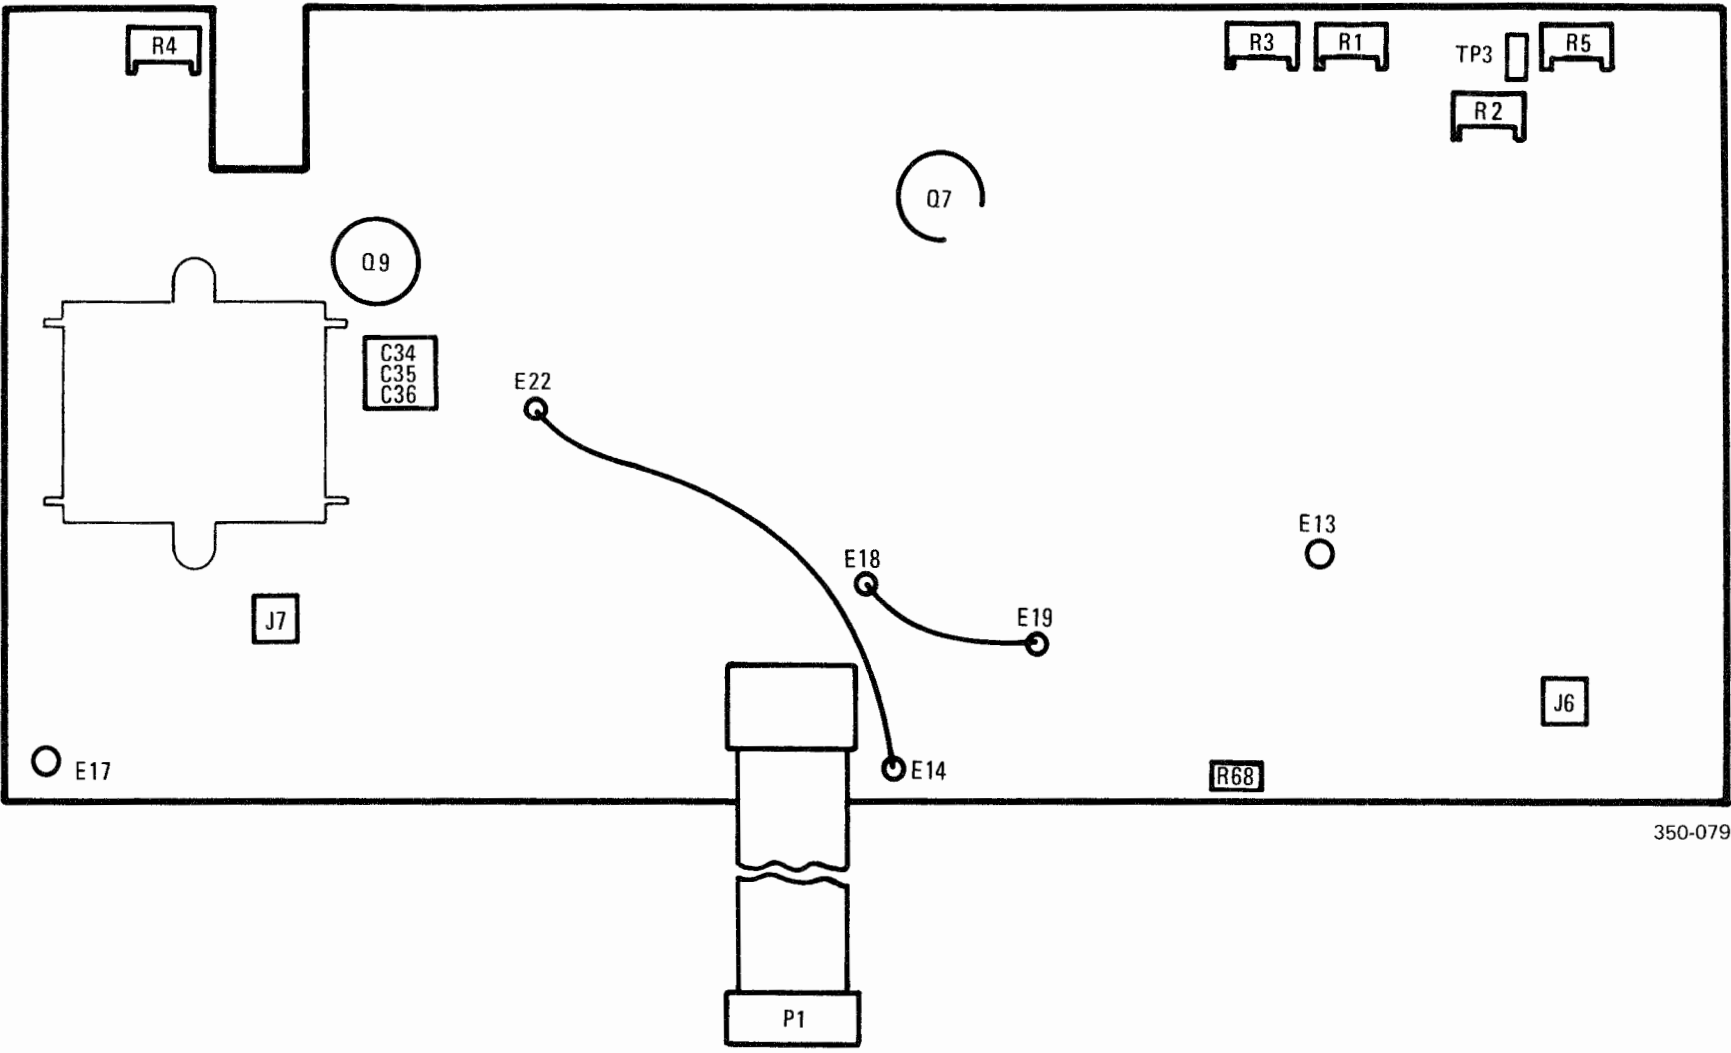

Figure 6-7. Power Amplifier PWB Assembly
- d. POWER AMPLIFIER, A1A4 (figure 6-7).